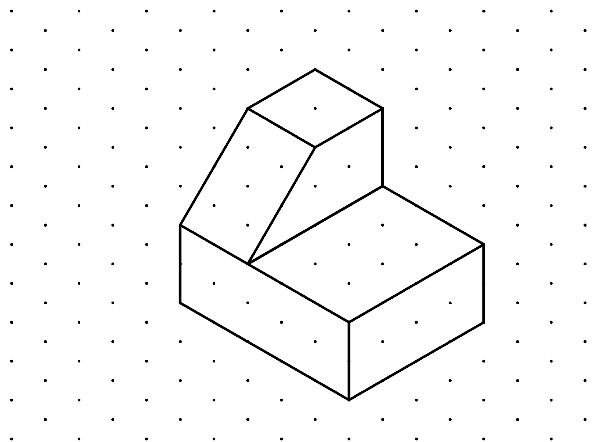

Figure 21-13 Isometric drawing with the tapered face
6. The front left end of the object is tapered at an angle. In isometric drawings, oblique surfaces (surfaces at an angle to the isometric axis) cannot be drawn like other lines. You must first locate the endpoints of the lines that define the oblique surface and then draw lines between those points. To complete the drawing shown Figure 21-8, draw a line from P10 to P8 and from P11 to P4, see Figure 21-13.